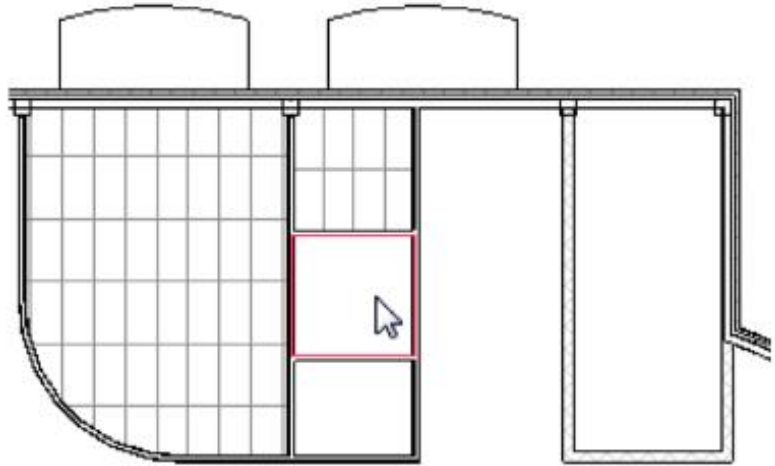

Figure 10–11
5. Click inside the four support rooms, as shown in Figure 10–11.